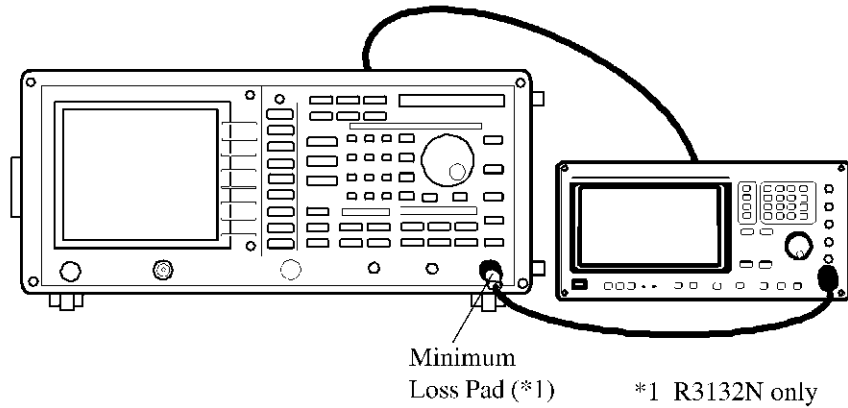

Figure 5-5 Setup of Resolution Bandwidth Accuracy and Selectivity Test
1. Connect the signal generator as shown Figure 5-5.